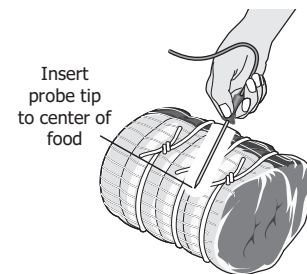

Figure 16: Probe in thickest area of food
- Insert the probe so that the probe tip rests inside the center of the thickest part of meat or food (See Figure 16). For best results, do not allow the probe temperature sensor to contact bone, fat, gristle, or the cookware.